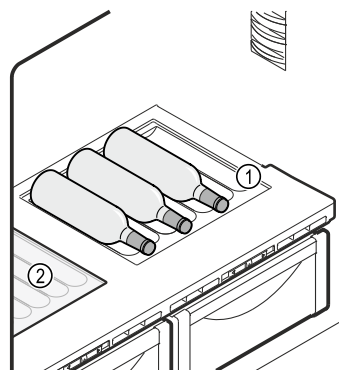

Fig. 189 Example illustration
- Insert the glass shelf Fig. 189 (2) under the variable bottle rack.